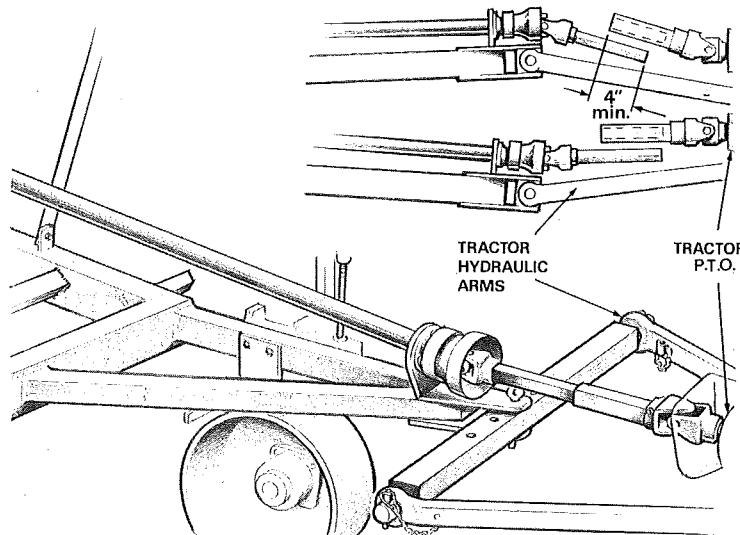

Fig. 1
**For Example.** Not bottoming or less than 4" overlap in fully extended position. Adjustment is made by cutting if necessary surplus P.T.O. Male and Female shafts. (FIG. 1).